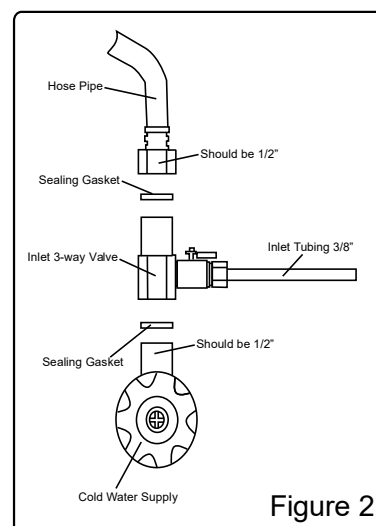

Figure 2
1. Turn off the water supply, disconnect the hose pipe. take the inlet 3-way valve out from the accessory bag, install it on the pipe line as the figure 2.